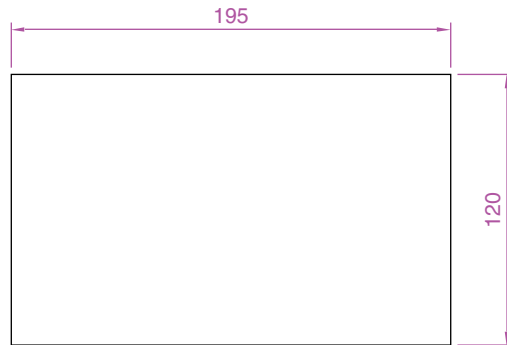

Fig. 2.30 Exercise 2
2. Construct the outline in Fig. 2.30 using the **Line** tool. The coordinate points of each corner of the rectangle will need to be calculated from the lengths of the lines between the corners.